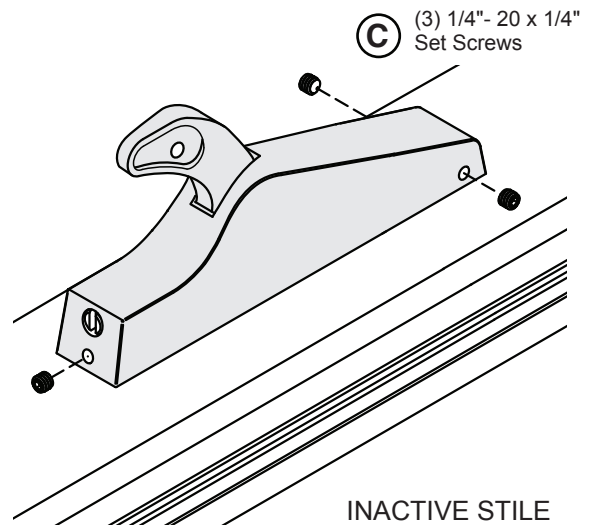

FIG. 15
4. Attach Inactive Body and Arm Assembly using (3) **(C)** 1/4"- 20 x 1/4" Set Screws (Fig. 15).